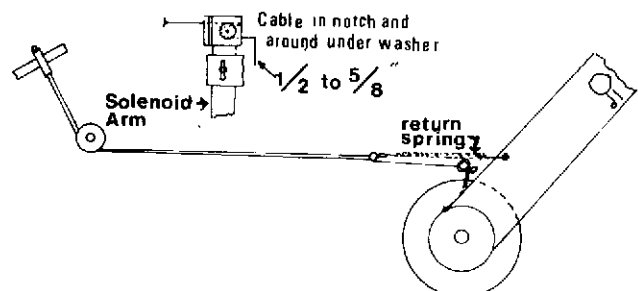

Figure 3-44. BRAKE CABLE ADJUSTMENT
**13. Brake Cable Adjustment (S.C.) Fig. 3-44**